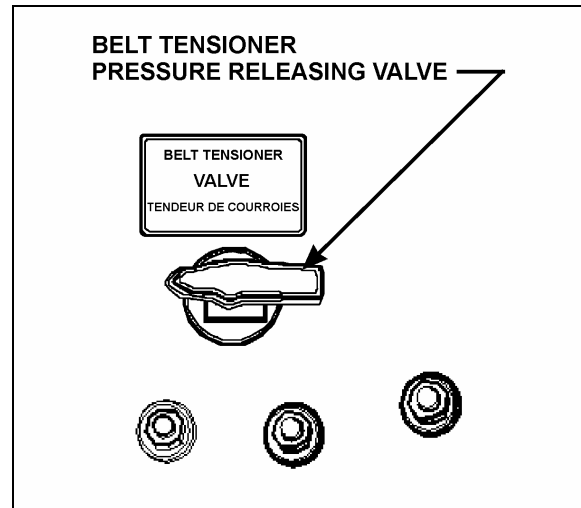

FIGURE 14: BELT TENSIONER VALVE
4. Locate the belt tensioner pressure releasing valve (Fig. 14). Turn pressure releasing valve handle counterclockwise in order to release pressure in belt-tensioner air bellows and loosen belts. Remove the belts.